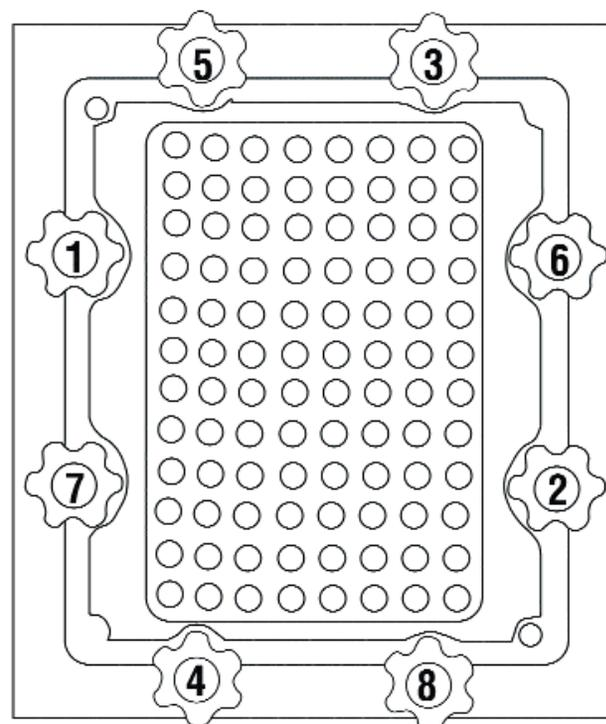

Figure 4 - 96-well bold tightening sequence
6. Place all 8 thumb-screws into the MicroDialyzer and, using the sequence indicated in Figure 4, tighten them finger-tight.
7. After tightening all 8 thumb-screws, retightened them, again using the sequence indicated in Figure 4
experiment was performed. The results are shown in Figure 4. In this experiment, a 16 well 150  $\mu\text{l}$  MicroDialyzer was used with a 15,000 MWCO membrane. Three sample sizes (25  $\mu\text{l}$ , 50  $\mu\text{l}$  and 100  $\mu\text{l}$ ) of a 0.125 M NaCl, 0.200 M Tris, pH 7.0 solution were dialyzed against pure water. At predetermined time intervals, the conductivities of the samples were measured to determine the amount of salt remaining.